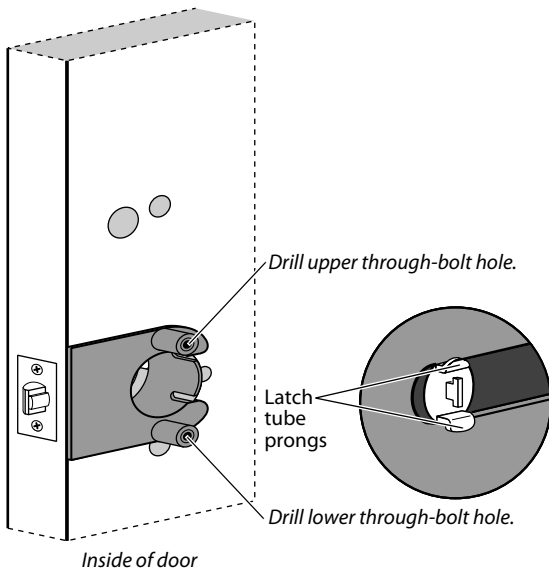

Figure 5 Installing the drill jig and drilling the through-bolt holes
- 1 Press the drill jig (KD303) onto the door, engaging it with the latch prongs (see the close-up in Figure 5). Make sure the front edge of the jig is parallel with the door edge.